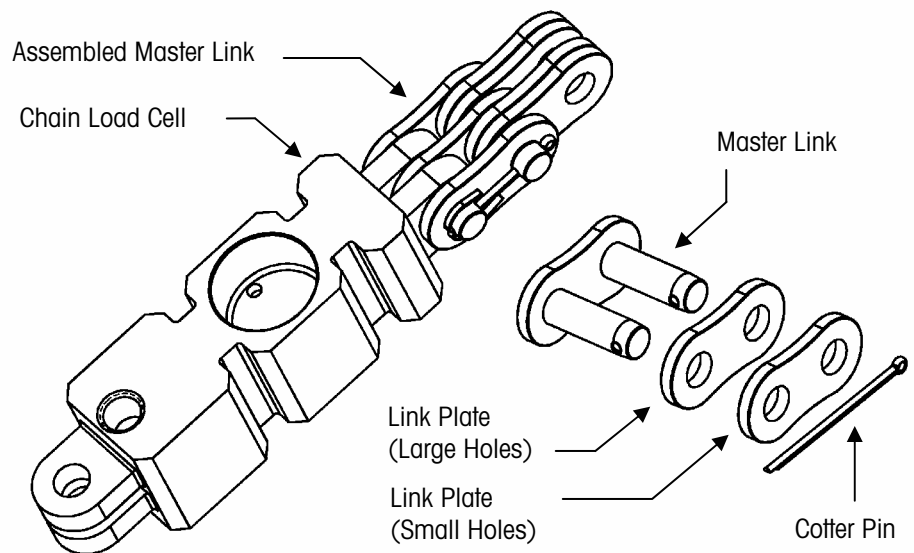

Figure 2-12: Connect Chain to Load Cell with Master Link
6. Use a master link to connect each chain to one of the chain load cells on the scale carriage. Assemble the master link as shown in Figure 2-12. Using a C-clamp or similar device, press the master link assembly together just enough so that you can insert the cotter pin in the holes. If the link is too tight, it can bind against the load cell and chain mount. If the link does not rotate freely on the load cell or chain, press the master link back through the link plates until it rotates freely.